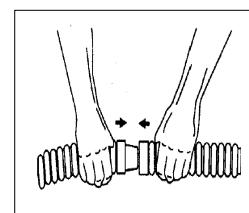

Figure 4
There are eleven (11) 81 cm connector hoses and one (1) 81 cm leader hose with a gray cuff. Connect the special cleaner hose sections together by pushing and twisting the tapered male connector end of each hose firmly into the female end of the adjacent hose sections (See Fig. 4). Depending on the size and shape of your pool, all hose sections might not be used. However, the **leader hose MUST ALWAYS be used or your cleaner will not operate properly**. It is not necessary to "Bottom Out" the connections, but they **MUST** be tight enough to prevent any air leaks. Wetting the hose ends will make it easier to connect the hose sections.